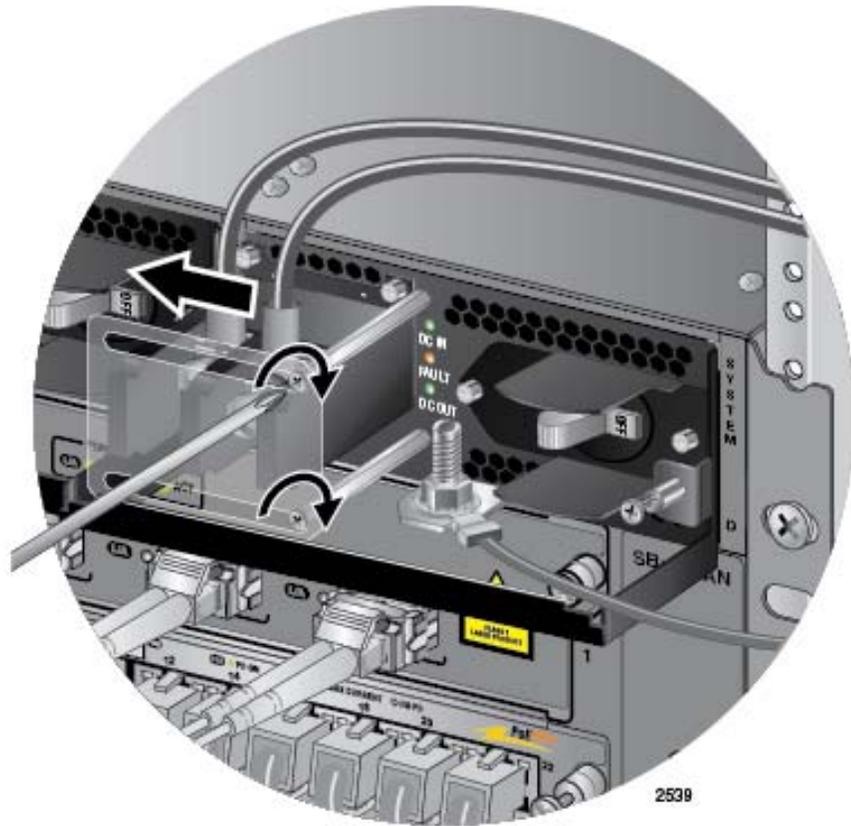

Figure 127. Closing the Plastic Cover over the Terminal Connectors
8. Slide the plastic cover to the left and lightly tighten the two screws with a #1 Phillips-head screwdriver to secure the cover. See Figure 127 on page 188. You might need to lift the locking handle slightly to access the bottom screw.
7. Slide the plastic cover to the left and lightly tighten the two screws with a #1 Phillips-head screwdriver to secure the cover. See Figure 127 on page 188. You might need to lift the locking handle slightly to access the bottom screw.